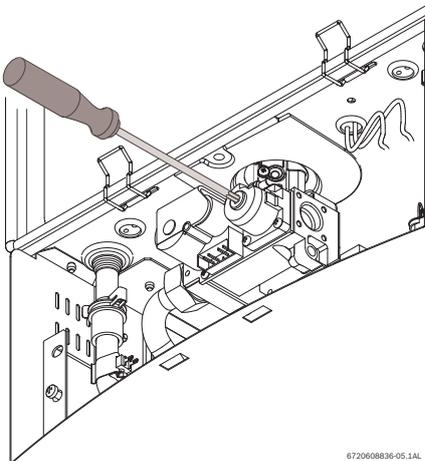

Fig. 63 Adjusting P2 CO₂ level
- ▶ Remove yellow painted #40 Torx cover from the front of the gas valve. (Fig. 63) A plastic #40 Torx screw will be revealed.